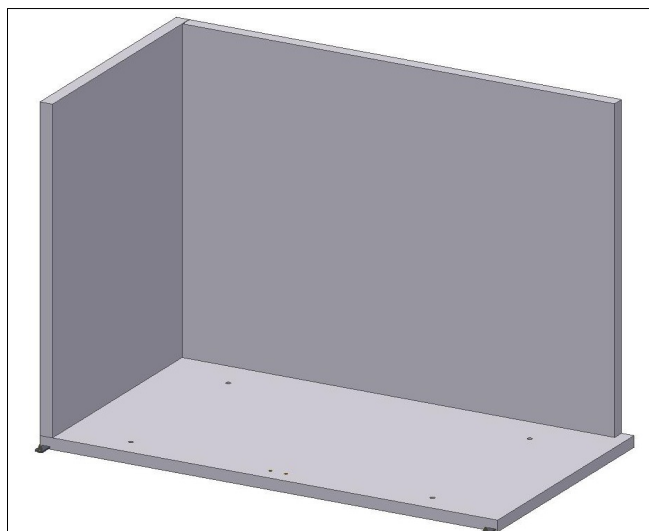

Fig. 4
- Fix the **left-side panel** to the panel of the bottom and fasten only the bottom (Fig.4);